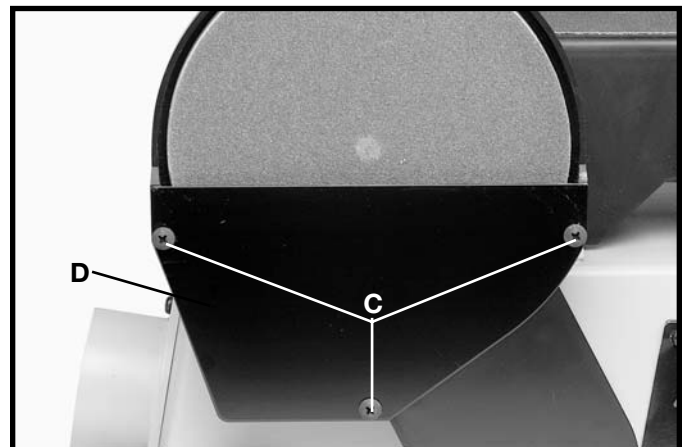

Fig. 43
3. Remove three screws (C) Fig. 43, and lower cover (D).